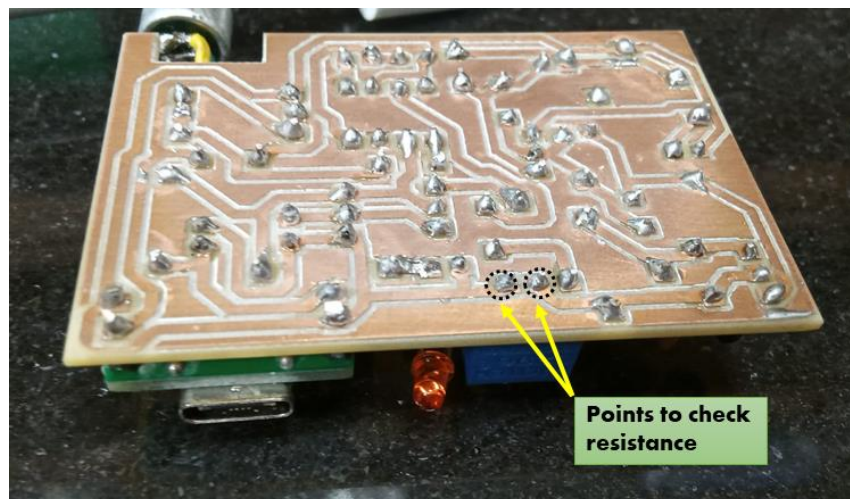

Figure 3: Points to position DMM Probes at the backside of PCB for checking resistance for calibration.
5. Unplug PhysBell from PhysLogger. Using the Rigol Multimeter again, check the resistance value at the pins indicated in **Figure 3**. These are located at the back of the PCB of PhysBell. This value should be 135Ω . If there is any difference, it needs to be adjusted, as described below.